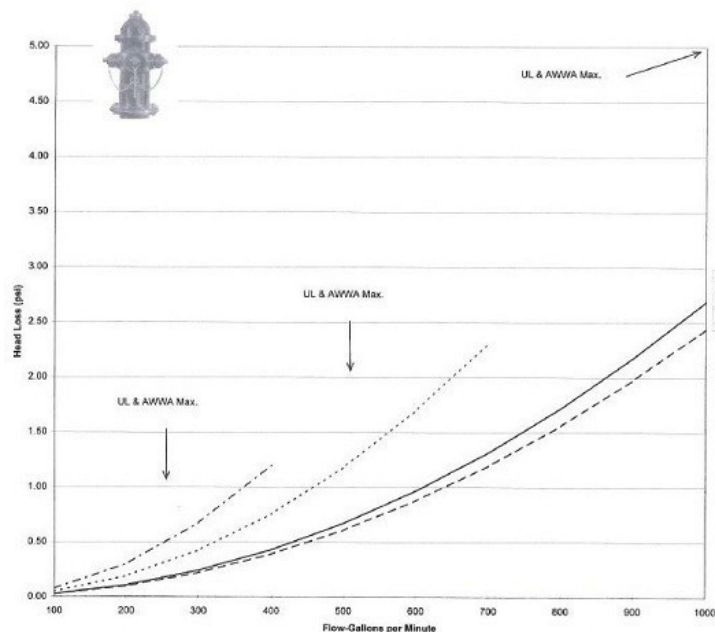

Figure 1 Hydraulic performance graph for APC hydrant
- The hydraulic performance of the fire hydrant depends on how many and which ports are used. Figure 1 shows the hydraulic performance graph of the APC MH1510 fire hydrant as the head loss (or pressure drop) as a function of the flow rate through the hydrant. The steepest curve is the performance when just one 2-1/2" hose nozzle is used (dash-dot line). If both 2-1/2" hose nozzles are used, the curve becomes less steep (dotted line). When the 4-1/2" pumper nozzle is used the hydrant has even less resistance, as indicated by the shallower solid line. Some models can be configured with a 4-1/2" pumper nozzle, in which case the performance would be
- The curve for each component can be generated from the hydrant's resistance curve obtained from the manufacture. For APC Hydrant Hydraulic graph shown in Figure 1, a single data point was taken off the curve for each mode of operation, one from the 2 1/2 inch single line, 2 1/2 inch double line, and 4-1/2-inch singleline